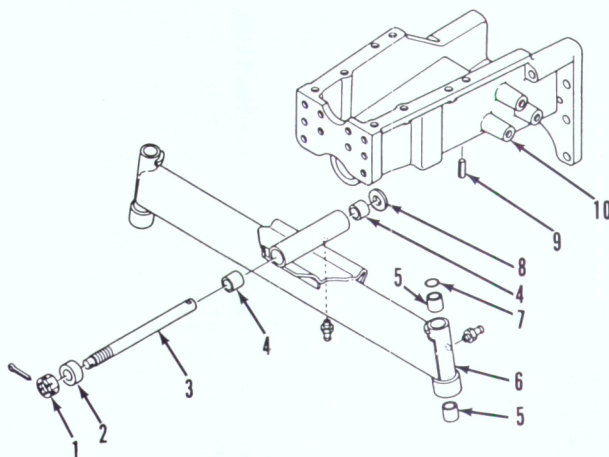
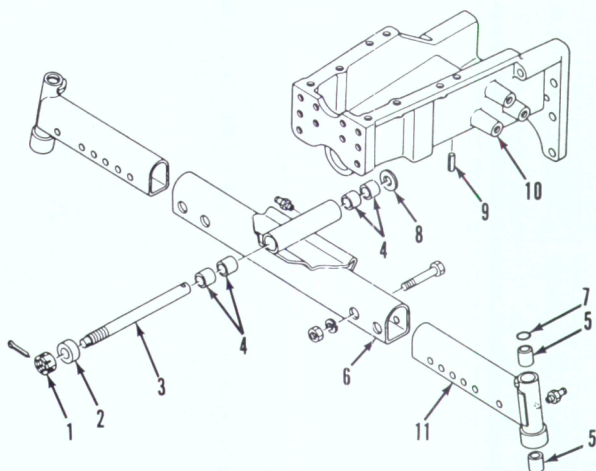

Fig. 2—Exploded view of adjustable tread front axle used on Model L275. Except for axle extension (11), refer to Fig. 1 legend.
Fig. 3—Exploded view of adjustable tread front axle used on Models L245, L285, L295, L305 and L345.
1. Fig. 1 shows an exploded view of typical tread front axle assembly used on Models L185 and L235. Model L275 uses an adjustable tread front axle as shown in Fig. 2. All other models are equipped with an adjustable tread front axle as shown in Fig. 3.